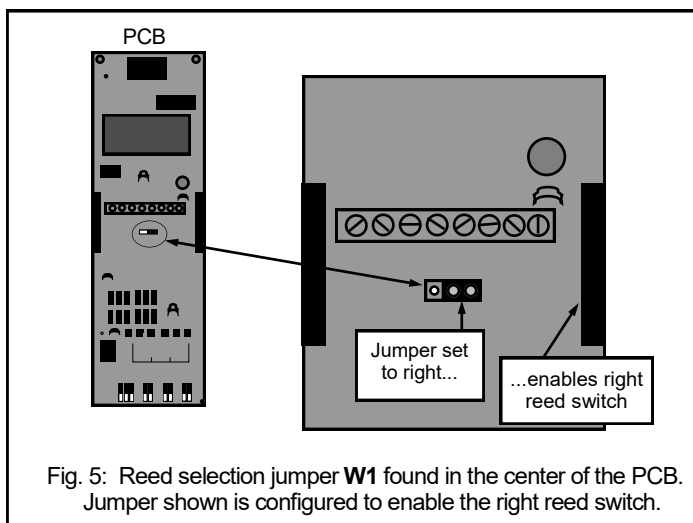

Fig. 5: Reed selection jumper **W1** found in the center of the PCB. Jumper shown is configured to enable the right reed switch.
2. **Reed selection jumper W1** is located in the center of the PCB. The jumper should be set to the side of the unit that will have the magnet installed (see Fig. 5).
- (Part #P0290) so that it is centered between the two marks on the Housing Cover sticker, the template, or created during Magnet Alignment Mode. Mark holes, use a 1/8" (0.125") bit, and drill the hole 1" deep. Use the two supplied #8 sheet-metal screws (1"). **Note:** On steel frames, it is sometimes necessary to install a non-magnetic shim or spacer between the magnetic actuator and the frame to prevent the steel frame from absorbing the magnet's magnetic field that could cause a constant or occasional false alarm, and to correct for height differences between the door and the doorjamb. Use the enclosed spacers or construct a shim 1/2" x 2 1/2" x 1/8" from thick non-magnetic material such as plastic, Bakelite or rubber. **Note:** The reed selection jumper W1 should be set to the side of the unit that will have the magnet installed (see Fig. 5). After the Magnetic Actuator has been aligned and mounted, the Tamper Screw may be installed to place the unit in its normal "Standby Mode", ready for use.